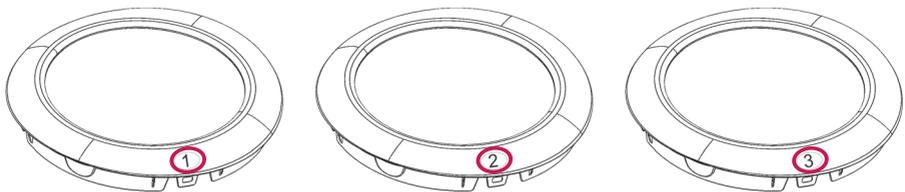

Fig. 2B: Set of three thermographic matrices numbered 1, 2 and 3
- a set of three thermographic matrices numbered 1, 2 and 3, model: TMS-1.0 (see Fig. 2B),